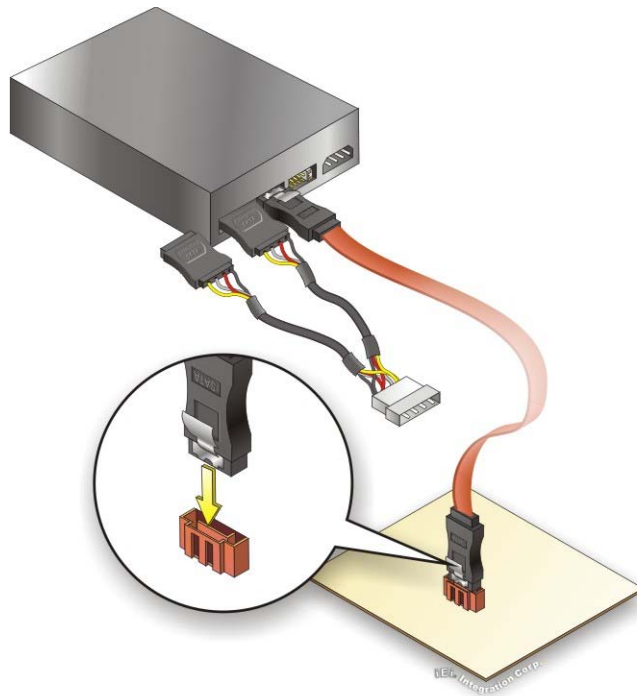

Figure 4-15: SATA Power Drive Connection
Step 3: Connect the cable to the SATA disk. Connect the connector on the other end of the cable to the connector at the back of the SATA drive. See **Figure 4-15**.
Step 4: Connect the SATA power cable. Connect the SATA power connector to the back of the SATA drive. See **Figure 4-15**.